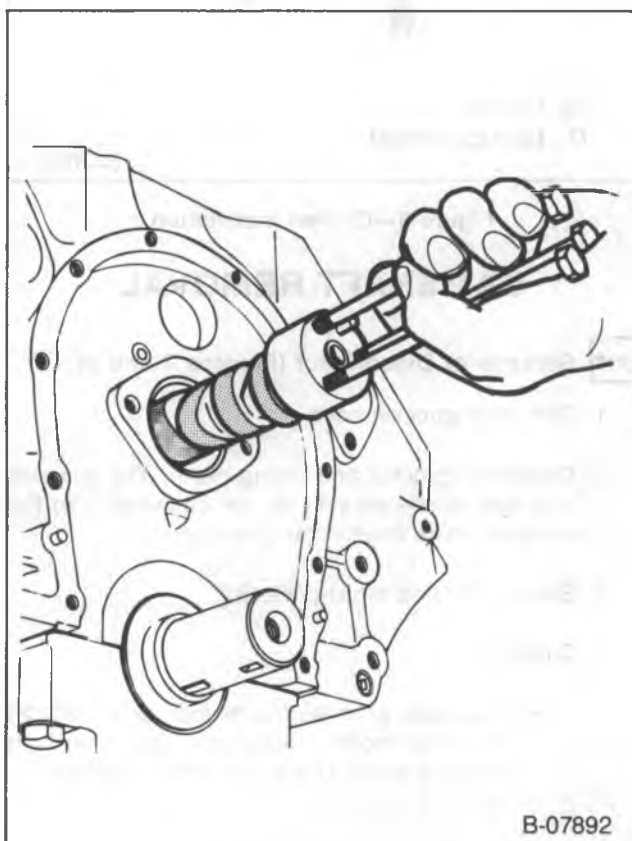

Figure 8—Replacing the Camshaft
3. Screws (88) and thrust plate (87).
- Install two or three $\frac{5}{16}$ -18 inch bolts 100-125 mm (4-5 inches) long into the camshaft threaded holes. Use these bolts to handle the camshaft (figure 8).